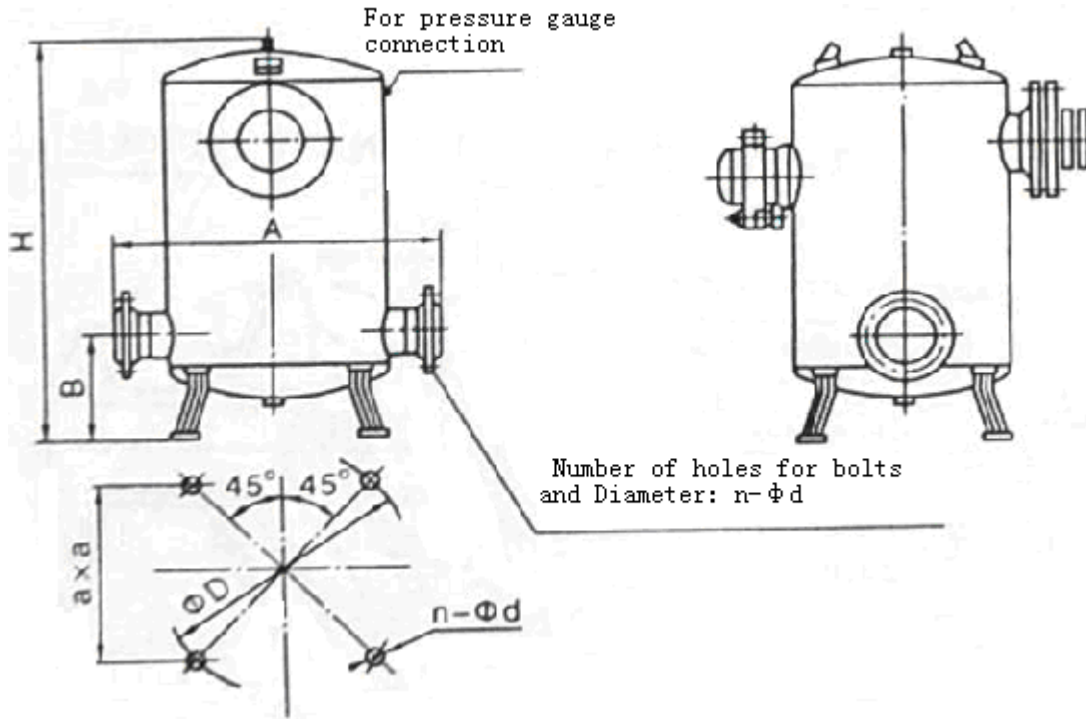

Fig. 3
(2) Dimensions of Upright Air Eliminator refer to Fig 3 and Table 3